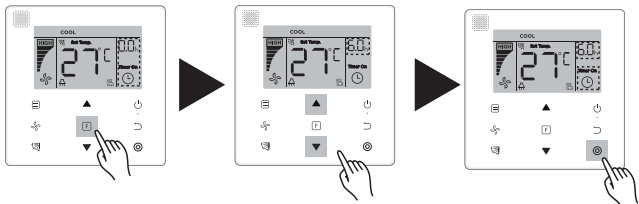

Figure 6.16
- 1) **"Timer On"** setting: press  (Function) button to go to the **"Timer On"** setting, the display will show **"0.0h Time On"**, and the words **"Time On"** will blink, then press  (Confirm) button to go to the timer setting. Press  and  buttons to adjust the time, and press  (Confirm) button to complete the timer setting (see Figure 6.16).